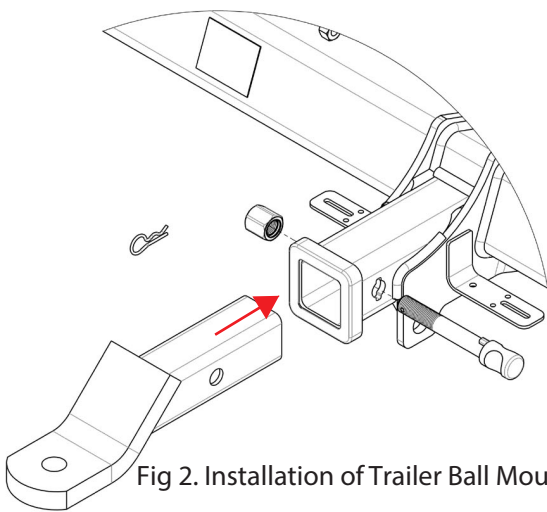

Fig 2. Installation of Trailer Ball Mount
- d. Remove 2 torx screws behind plastic wheel guard on both sides, refer figure 2.
Figs 2 remove torx screws
Insert Trailer Ball Mount (TBM) into towbar HITCHBOX, aligning hole in TBM SHANK with hole in HITCHBOX (Fig 2).